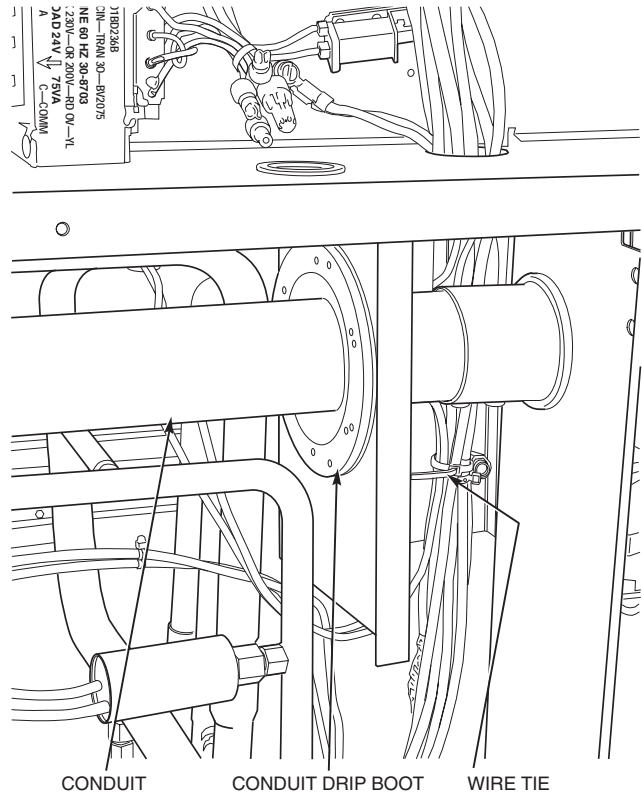

Fig. 4 — Typical Conduit Installation
5. Secure the conduit drip boot bracket assembly to the back of the single point box with 2 of the screws provided (Fig. 4). The channel portion of the bracket assembly extends to the top panel behind the control box. Secure all wires to bracket with field-supplied wire tie as shown in Fig. 4.
13. Remove knockouts for appropriate size conduit from unit block-off panel and single point box. Install conduit (rigid or electrometallic tubing) through conduit drip boot as shown in Fig. 4. Drip boot will accept conduit sizes 19 to 38 mm ($3/4$ in. to $1\frac{1}{2}$ in.). The drip boot eliminates the need for water-tight conduit fittings at the single point box.